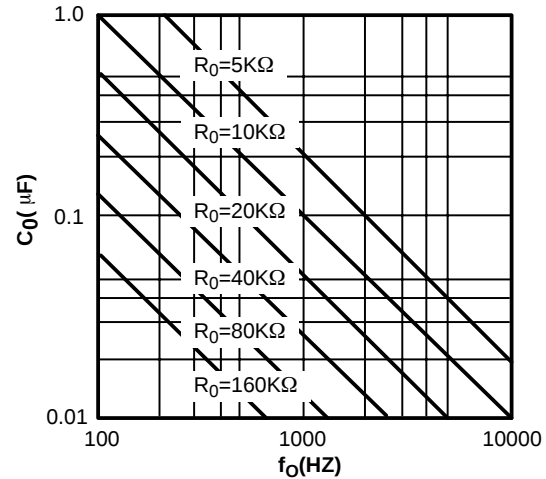

Figure 6. VCO Frequency vs. Timing Resistor
VCO Timing Capacitor (Pins 13 and 14): VCO frequency is inversely proportional to the external timing capacitor, C_0 , connected across these terminals (see *Figure 6*). C_0 must be non-polar, and in the range of 200pF to 10 μF .
- b) Calculate value of C_0 from design equation (1) or from *Figure 6* $f_S = f_O$: